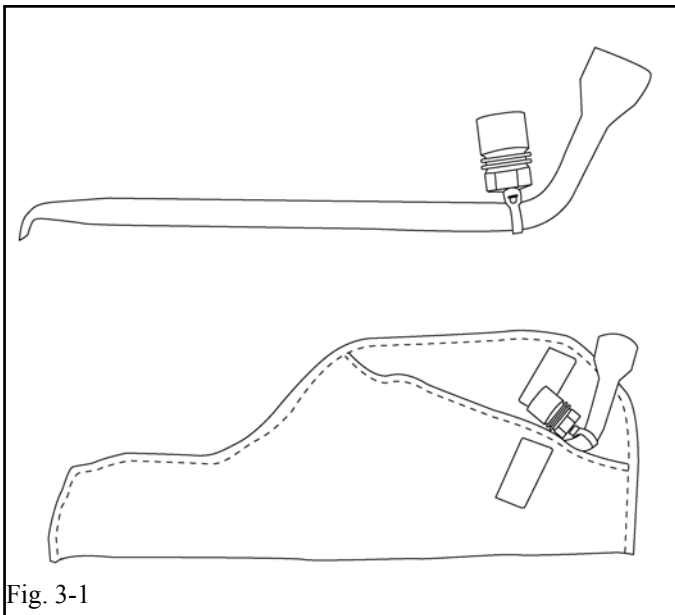

Fig. 3-1
- (a) Attach the key to the vehicle lug wrench using the cable tie. (Fig. 3-1)
-  (c) Place the lug wrench with the key attached in the lug wrench storage area. (See Fig. 3-1).